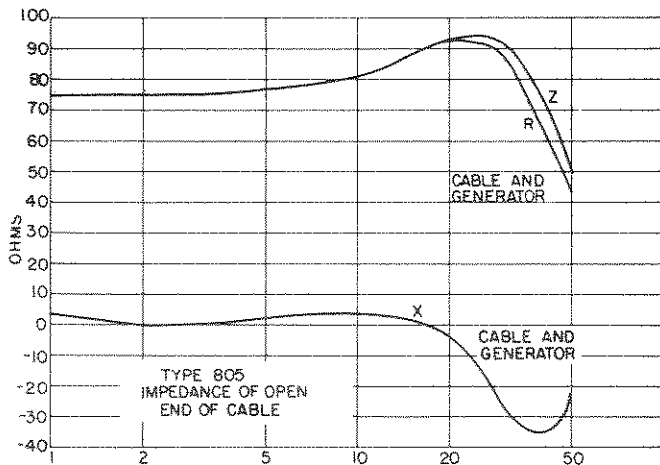
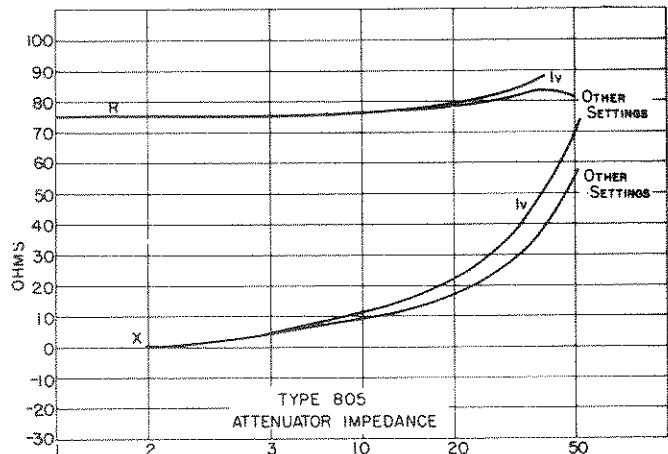

Figure 10. Output impedance at open end of cable.
Figure 11. Attenuator impedance as a function of frequency.
3.32 With the termination unit removed (this can be done by unsoldering the cable at the termination unit or by substituting an equivalent cable of the same length and impedance), the impedance characteristic is that shown in Figure 10, and the open-circuit voltage is twice that indicated by the output meter and attenuator.
3.33 The deviation in impedance from the normal resistive value of 75 ohms is caused by inductance in the attenuator, whose characteristic is shown in Figure 11. Since the attenuator and cable system is series resonant at approximately 20 megacycles, the sign of the reactance seen at the open end of the cable is reversed at higher frequencies, as shown in Figure 10.